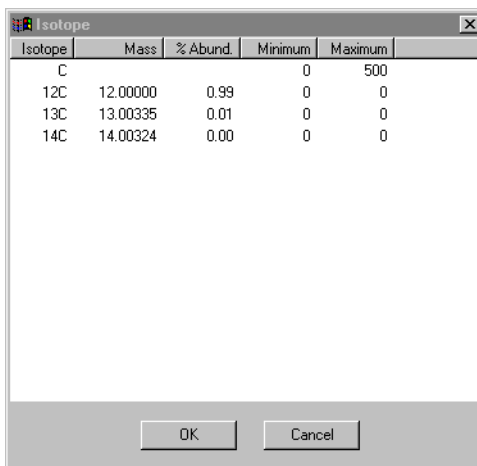

Figure 6-7 Isotope Dialog Box
- Click an element to select it and to display the Isotope dialog box (Figure 6-7).